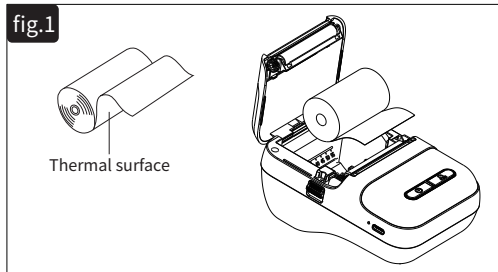

fig.2
- ② There is a blue spool holder bracket that should be snug against the paper. Push forward to lock the paper before printing, and push back to unlock. **(fig.2)**
Click"install immediately".(fig.2)